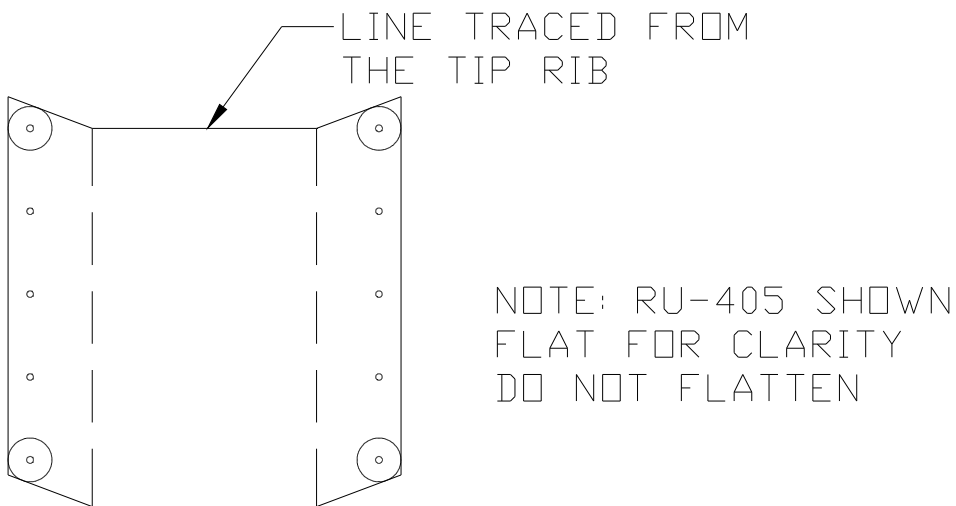

Figure 4.3.7
- 10) Mark the Leading Edge Skin for trimming (use the tip ribs for a guide). Remove the skin and trim. Use a circle template to mark out for the corner radius. Figure 4.3.7.